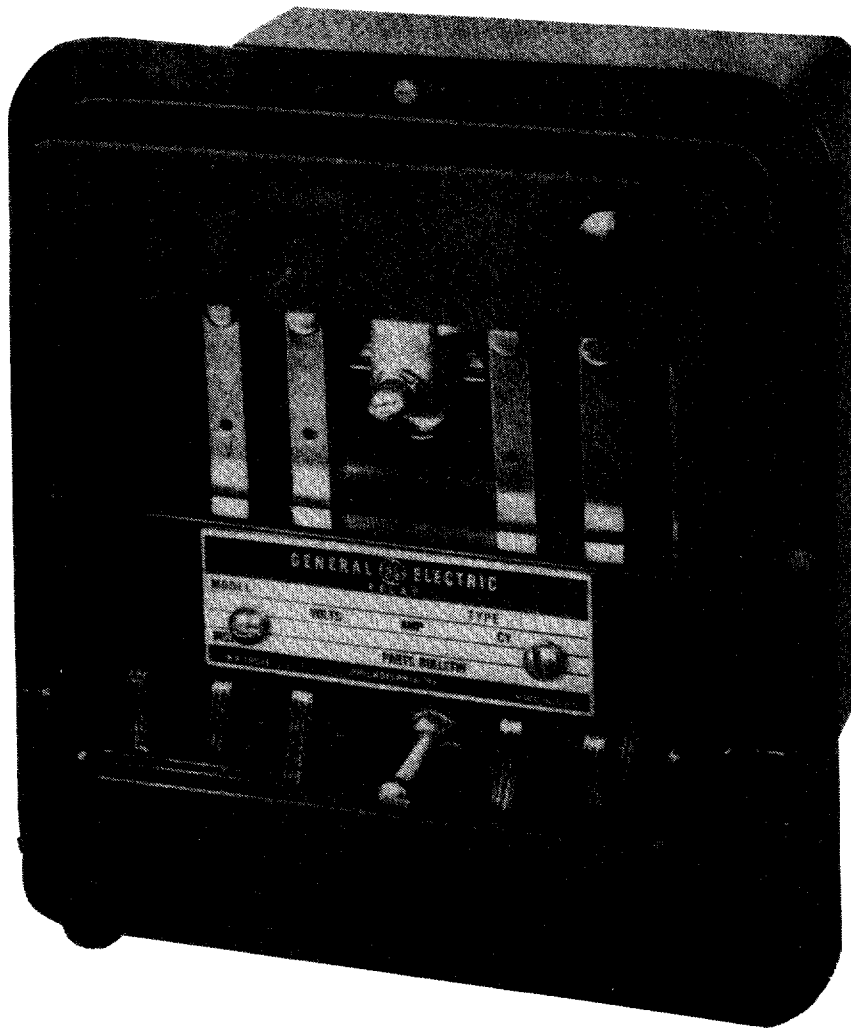

Figure 1 (8042731) Back Connected HFA Relay with Flange for Semi-flush Mounting (Front View)
The HFA153K relays are available as back connected semi-flush mounted relays, HFA153K(-)F, or as front connected surface mounted relays, HFA153K(-)H. See Figure 1 and 2.
- Figure 1 (8042731) Back Connected HFA Relay with Flange for Semi-flush Mounting (Front View)